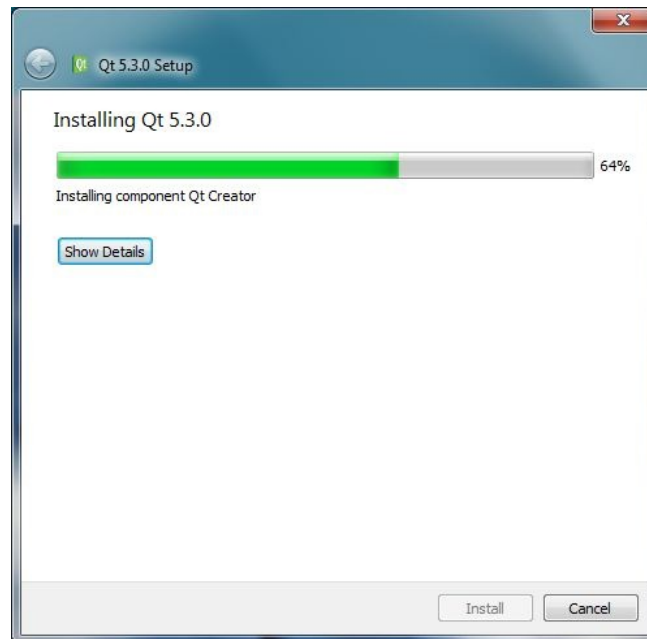

Figure 4-6. Qt Creator IDE Installing
8. Wait for the installation to complete. Figure 4-6 shows the installation status bar.